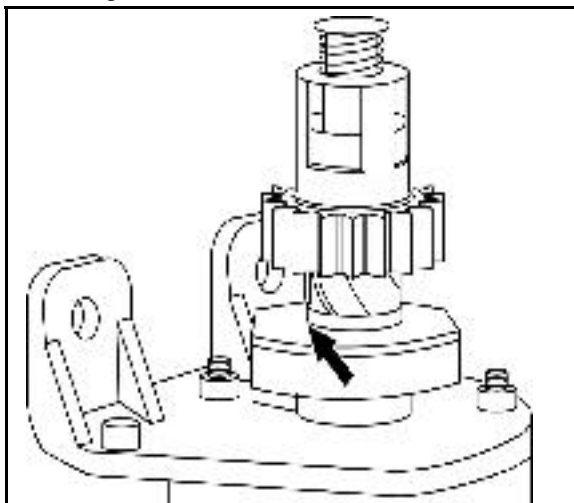

Fig. 55
2. Use lithium grease at base of helix to correct sticking. Proper starter operation depends on pinion moving freely on helix, Fig. 55.